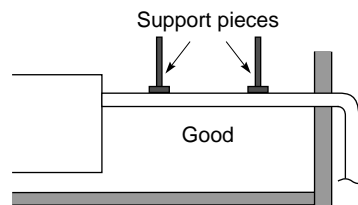

Fig. 3-84
- Do not apply force to the piping on the unit side when connecting the drain pipe. The pipe should not be allowed to hang unsupported from its connection to the unit. Fasten the pipe to a wall, frame, or other support as close to the unit as possible. (Fig. 3-84)